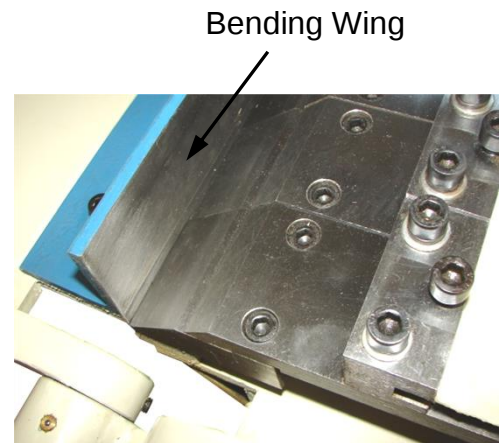

figure 15
2. Lift up on the bending leaf until the bending wing is perpendicular to the fingers as in (fig. 15). Set the stop collar to hold the leaf in this position. The bending wing will now serve as a straightedge to help line up the fingers.